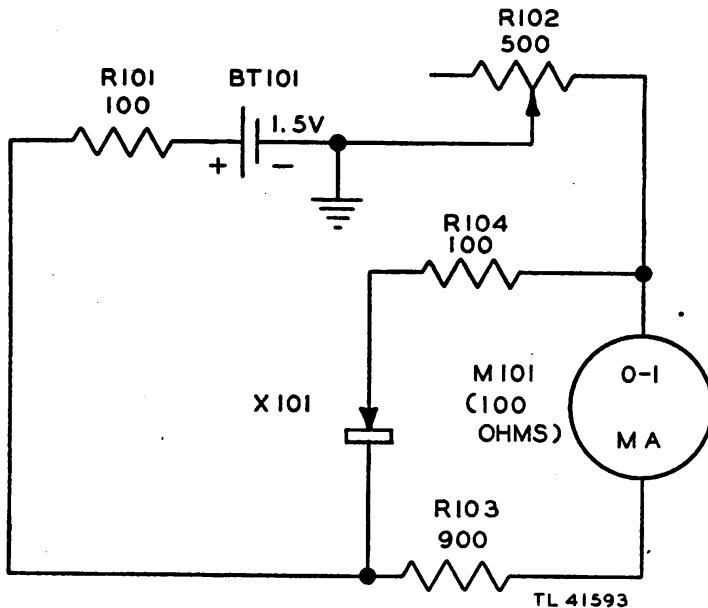

Figure 9. Meter-adjusting circuit for back current measurements, simplified schematic diagram.
(5) MTR ADJ Position (fig. 9). When the selector switch is in this position, battery BT101, fixed resistor R101, and variable resistor R102 are connected in series with a two-branch parallel circuit consisting of the crystal rectifier and resistor R104 (100 ohms) in one branch, and meter M101 (100 ohms) and resistor R103 (900 ohms) in the other branch. The connections to the crystal rectifier are such that the backward resistance of the crystal is in the circuit. Since the backward resistance of a crystal rectifier is quite high, the effective resistance of the parallel circuit is essentially that of the branch containing the meter and resistor R103, or 1,000 ohms. This circuit is used to adjust the meter pointer to full-scale deflection before measuring the current in the reverse direction through the crystal rectifier. Since the sensitivity of the meter is 1 milliamper, adjustment of resistor R102 to give full-scale deflection of the meter pointer causes a potential of